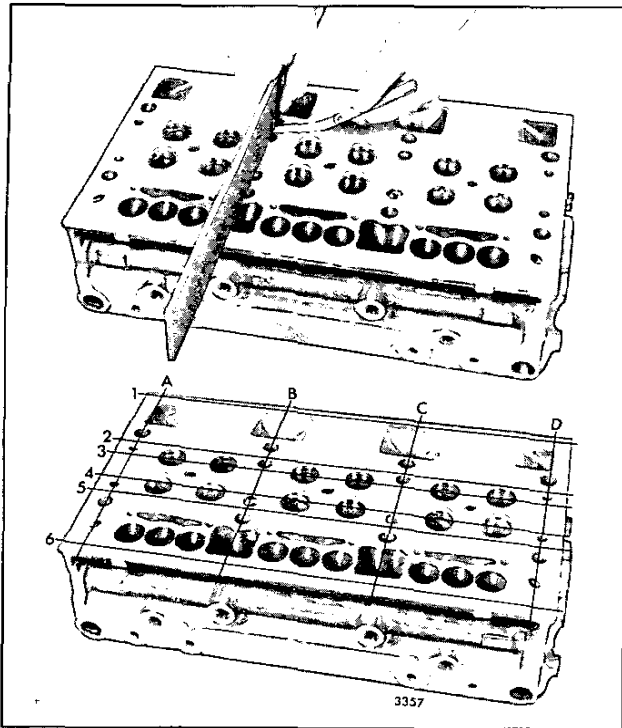

Fig. 3 – Checking Bottom Face of Cylinder Head for Warpage
- a. Use a heavy, accurate straight-edge and feeler gages, tool J 3172, to check for transverse warpage at each end and between all cylinders. Also, check for longitudinal warpage in six places (Fig. 3). Refer to Table 1 for maximum allowable warpage.